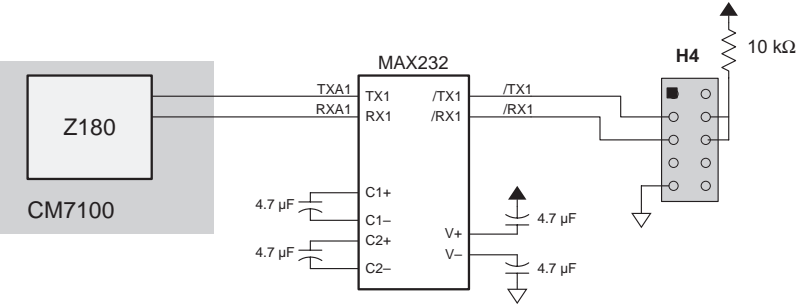

Figure 2-13. CM7100 Prototyping Board Serial Driver
2. Build a serial driver into your system based on the one on the Prototyping Board (see Figure 2-13).